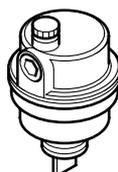

Fig. 41
5. Open the automatic air vent (Fig. 41).
10. If at any time during commissioning it is required to terminate a particular cycle, e.g. the pump overrun period, turn the selector to the OFF position and then back to either (ON) or (OFF).